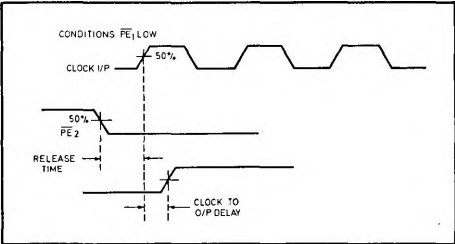

Fig. 4 Release timing diagram
- 6 Release time is defined as the minimum time that can elapse between a H $\rightarrow$ L transition of a control input and the next L $\rightarrow$ H clock pulse transition to ensure that the ± 11 mode is forced by that clock pulse (see Fig. 4).